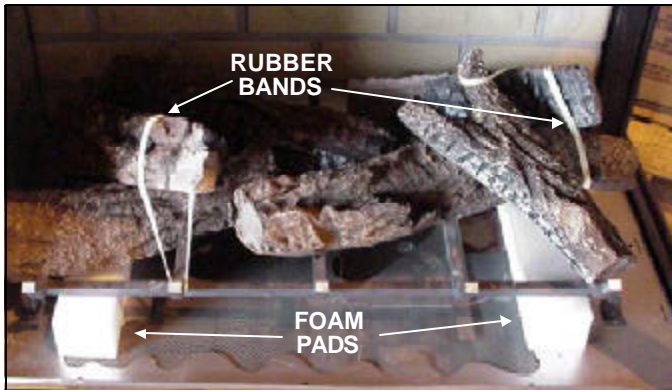

Figure 36.
- Remove the rubber bands from the log set (see Figure 36).